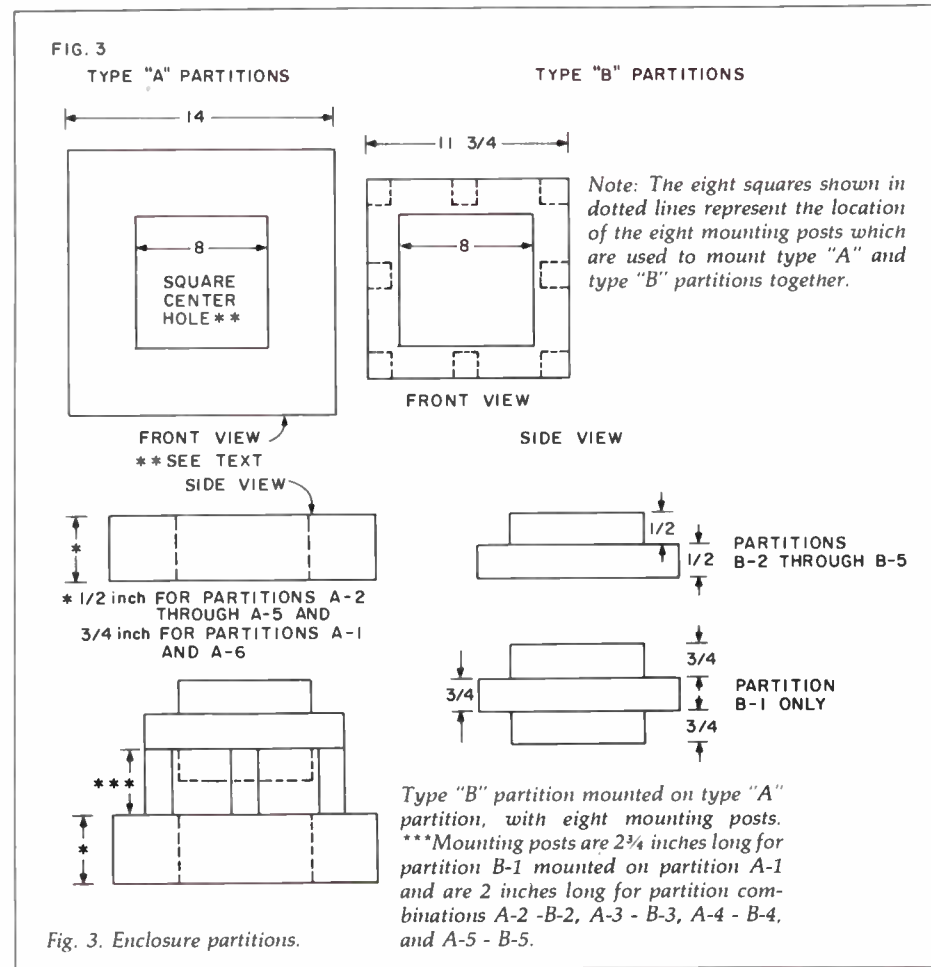

Fig. 3. Enclosure partitions.
In Fig. 3 we see how the partitions mount together to form partition assemblies. Note that:
8. Refer to Fig. 3. Glue the 8" square center sections cut out of partitions A-1 and A-6 firmly to the top and bottom of partition B-1, making sure you center each section on the partition. Glue the center sections from partitions A-2 through A-5 to the tops of partitions B-2 through B-5.
9. Still following Fig. 3, mount the B partitions on the A partitions with the mounting posts, remembering that the longer set of posts is for assembly A-1/B-1. Use $1\frac{1}{4}$ " screws and plenty of liquid glue.